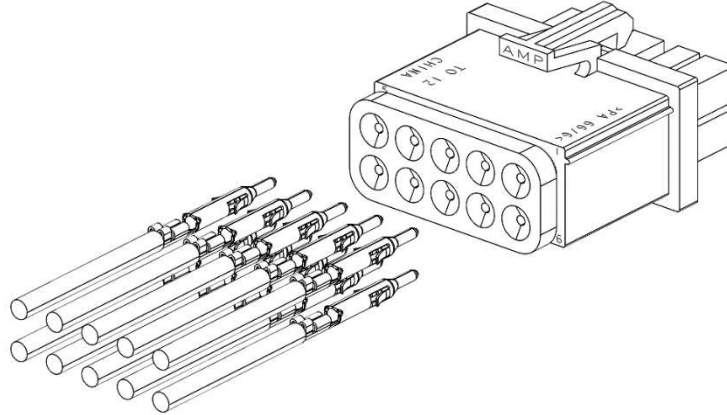

Figure 6
3. Align the terminated tab or receptacle contact with the appropriate cavity at the back end (wire side) of the plug or cap housing. This alignment is to help ensure that the gang seal will not be damaged during the insertion process. See Figure 6.